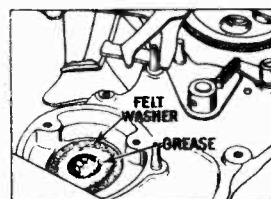

Fig. 12
- Examine the felt washer (shown in Fig. 12) to determine that it is properly packed.
NOTE:—Make sure that felt washer shown in Fig. 12 does not overlap hole, as a careless replacement of this washer may cause taper tube to bind.